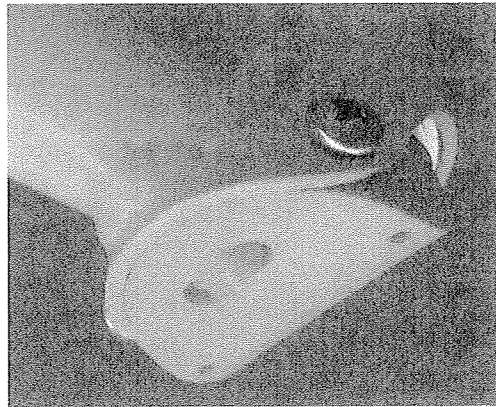

Figure 9: Electrical Harness
- Remove the electrical connector on the right by unscrewing the two screws and placing them aside. Slide out the electrical connector from the tube and allow it to hang off to the side. Refer to Figures 9 and 10.